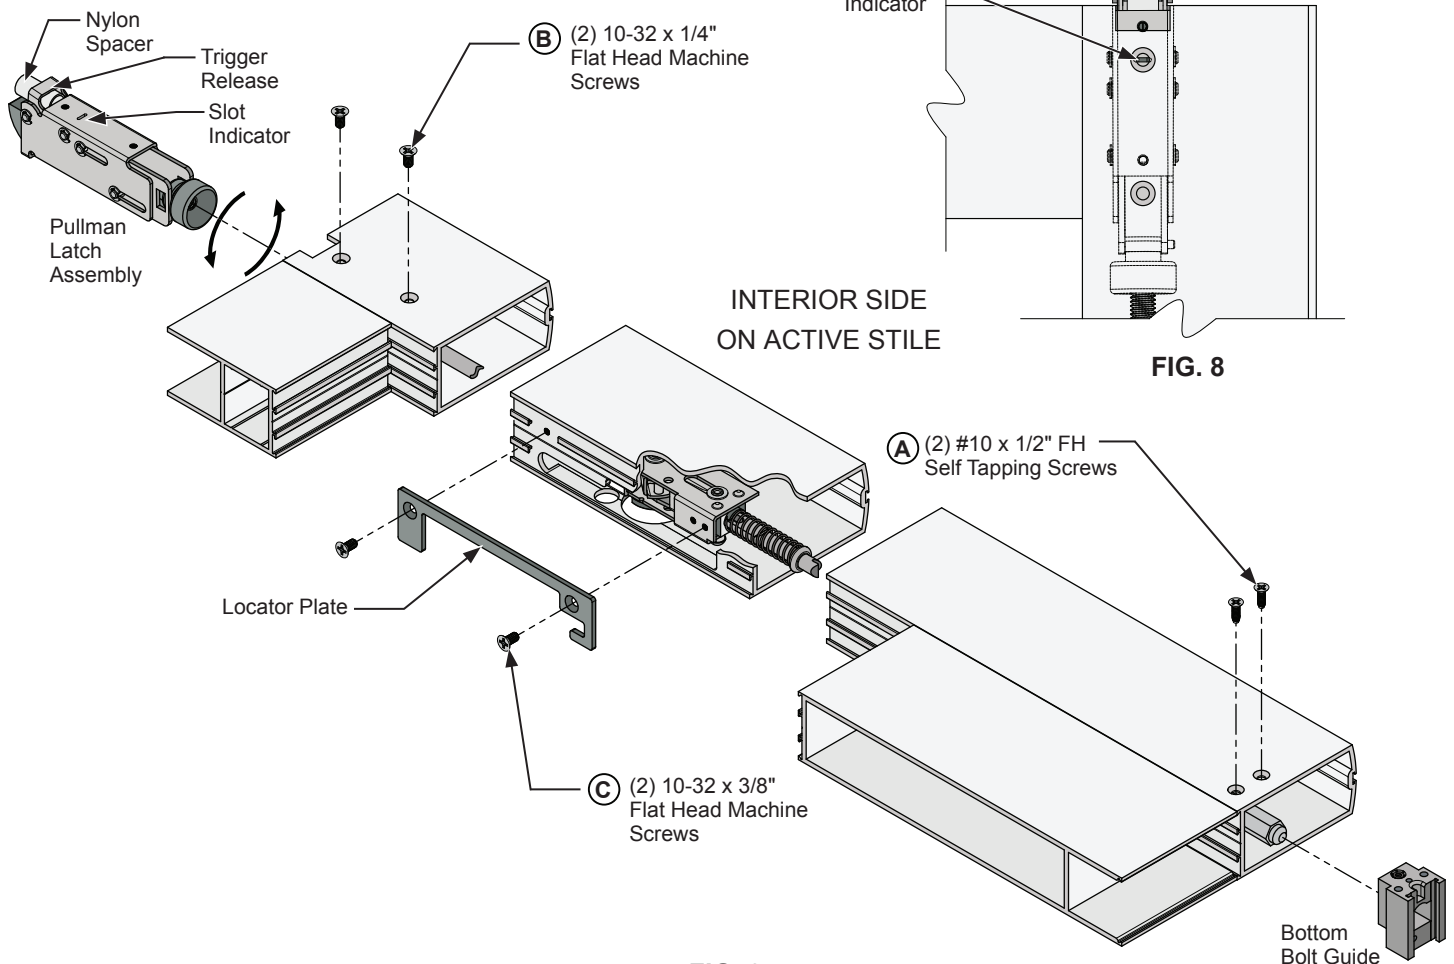

FIG. 9
2. Align the rod case assembly with the locator plate and fasten with (2) 10-32 x 3/8" **(C)** flat head machine screws. **(Fig. 9)**